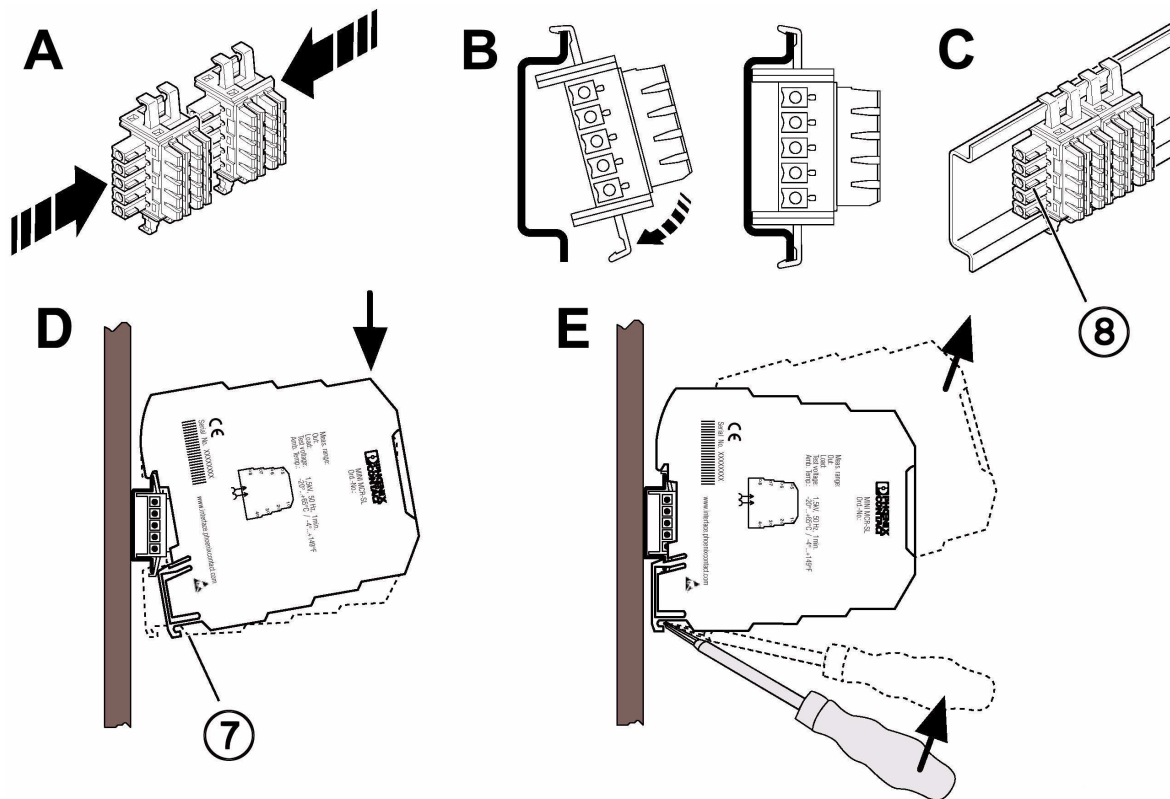

Figure 5 Mounting/Removing
The voltage supply (19.2...30 V DC) can either be provided via connecting terminal blocks "3"/"4" or "7"/"8" of the modules, or together, via the DIN rail connector (see Figure 5 on page 6). Please also observe "Power Supply" on page 7.
Snap-on foot (Figure 5, detail D 7) below and plug (Figure 5, detail C 8) left!
- First position the DIN rail connector in the DIN rail to bridge the voltage supply (see Figure 5).